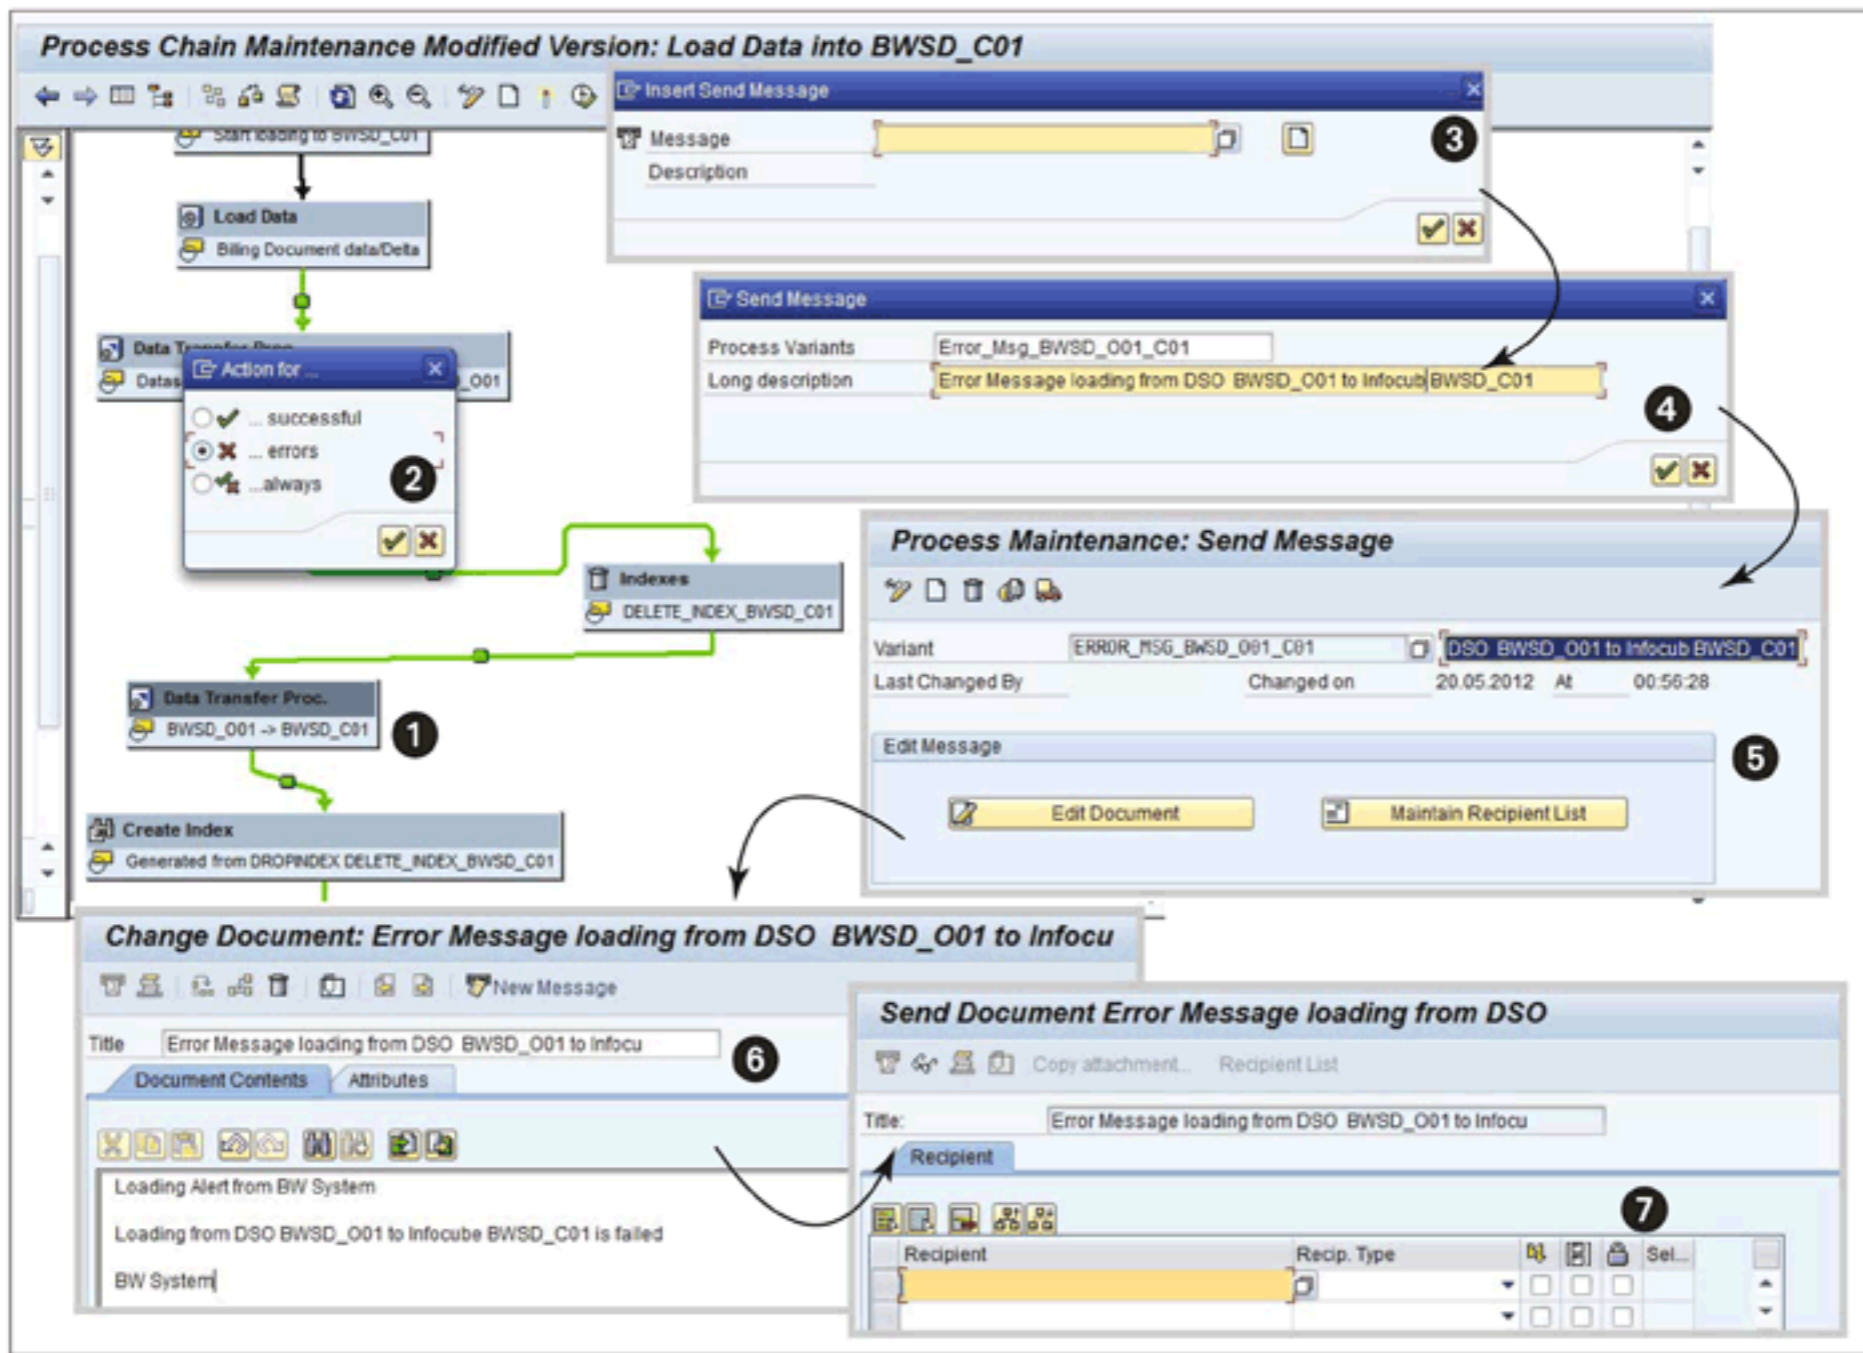

Figure 14.36 Process Maintenance: Send Message
In the ACTION FOR pop-up box, select the ERRORS radio button (2 of Figure 14.36), and click on the CONTINUE icon. In the INSERT SEND MESSAGE box (3), you can choose an existing message from the dropdown list, or create a new one by clicking on the CREATE icon (3). Now a SEND MESSAGE box appears, which has two fields. Enter the following:
- ▶ Long description: ERROR MESSAGE LOADING FROM DSO BWSD_O01 TO INFOCUBE BWSD_C01 (4)